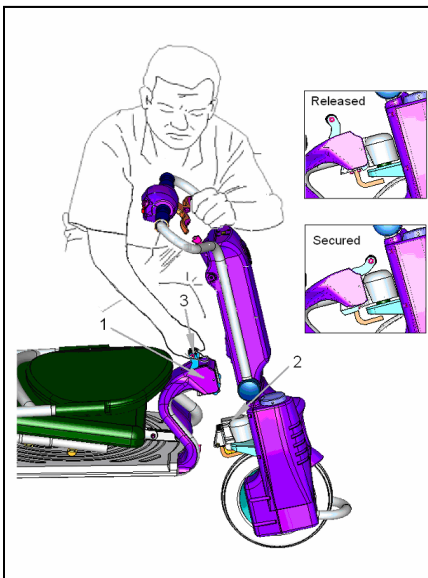

Fig 3
- Now fit the tiller to the mainframe (see fig 3). Working from the left side of the scooter, hold the tiller at the handlebar with your left hand holding it upright but tilted back slightly, lift the frame with your right hand on the lever, and lower the front of the frame over the block on the tiller, as fig 3. After the frame has dropped over the tiller location push the lever forward and down until it locks. Make sure the connection is secure by moving the tiller. The electrical connections are made automatically.